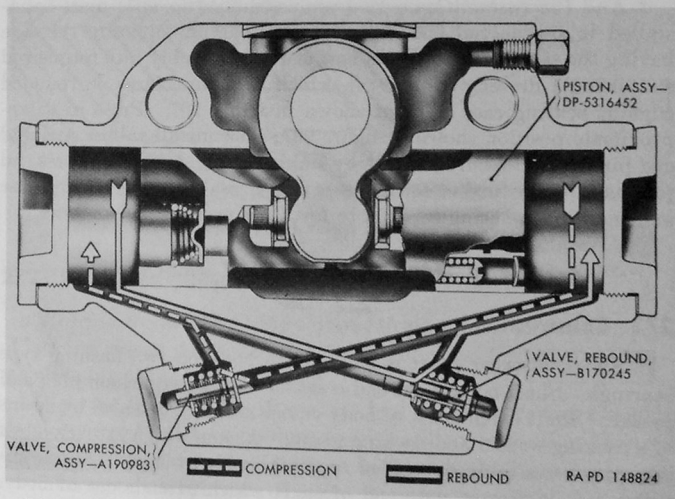

Figure 208. Schematic sectional view of shock absorber showing operation.
*a. General.*—The flow of fluid within the shock absorber during operation is schematically illustrated in figure 208. Two separate actions take place, compression and rebound. Each phase of operation is described separately under *b* and *c* below.